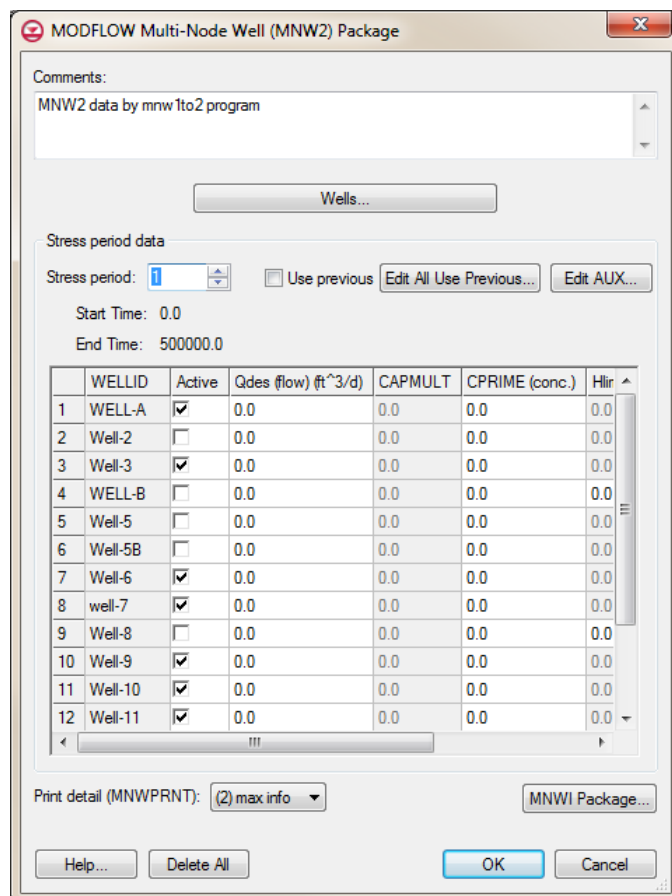

Figure 5 MNW2 Package dialog
1. Select *MODFLOW | Optional Packages | MNW2 – Multi-Node Well...* to open the *MODFLOW Multi-Node Well (MNW2) Package* dialog (Figure 5).